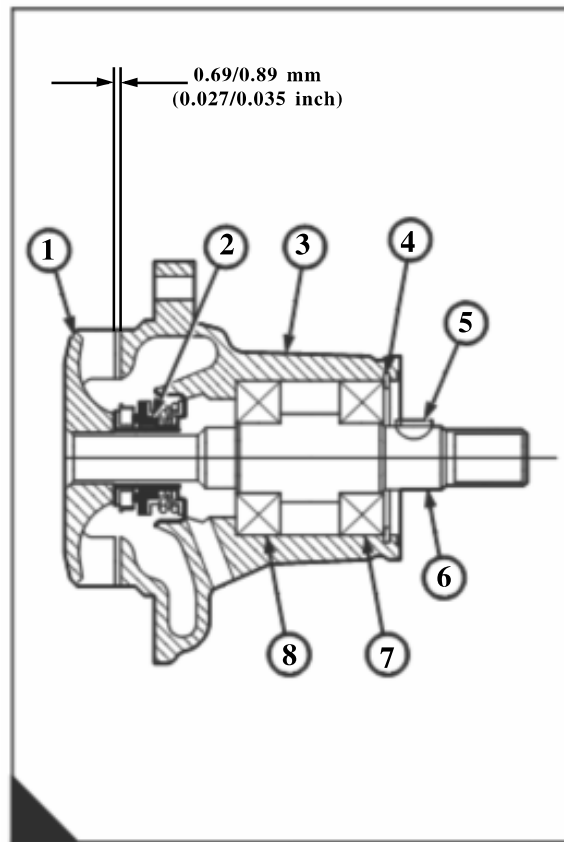

Fig. L12
1. Remove the coolant pump (Fig.L12) from the engine, operation Section L4
2. Remove the circlip (Fig.L12/4) for the bearing housing
3. Support the pulley end of the pump and press the shaft (Fig.L12/6) through the impeller (Fig.L12/1) and coolant seal (Fig.L12/2). This will remove the bearing (Fig.L12/7).
5. Support the pulley end of the pump and press out the bearing (Fig.L12/8). Discard the bearings.